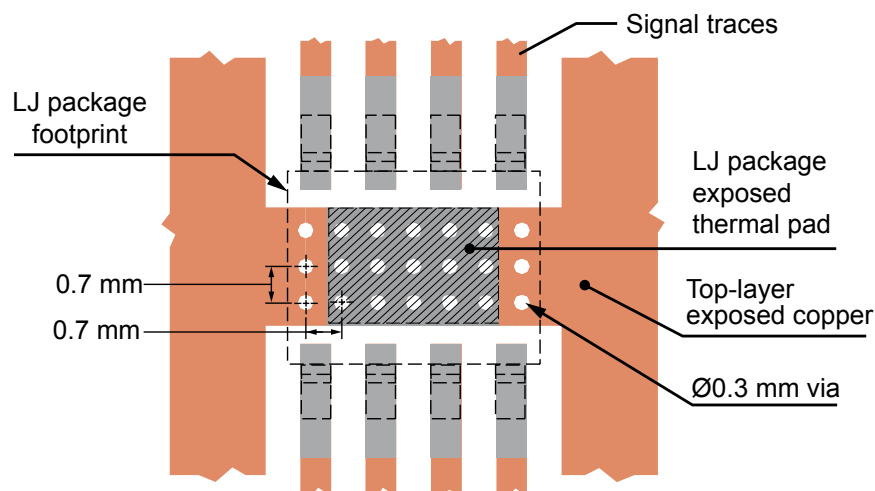

Figure 21: Suggested PCB layout for thermal optimization (maximum available bottom-layer copper recommended)
- The greater the quantity of thermal vias, the better the dissipation. If the expense of vias is a concern, studies have shown that concentrating the vias directly under the device in a tight pattern, as shown in Figure 21, has the greatest effect.